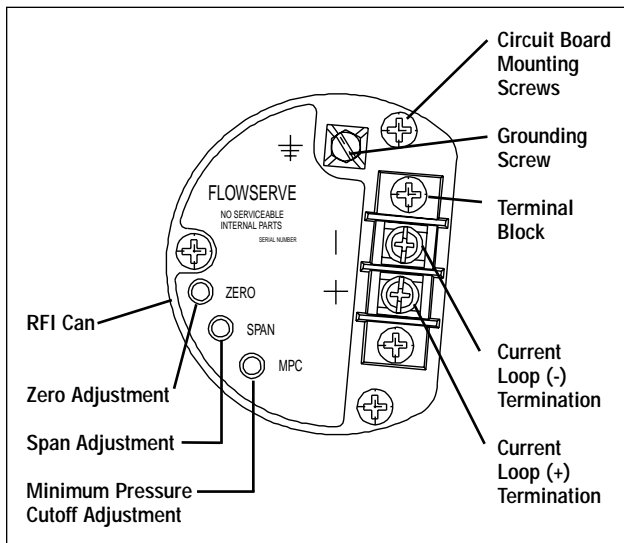

Figure 7: NT 3000 Circuit Board Module
2. Remove I/P module housing cover. (See Figure 7.)
The XL90 positioner with I/P Transducer has a "Minimum Pressure Cutoff" (MPC) feature, which allows the user to set the positioner. When the input signal falls below a user-adjustable current, the pressure output falls rapidly to approximately 1.7 psi, causing the valve to move to the failure position. This feature is generally used when the service requires a tight shut off or to prevent throttling near the valve seat. To adjust this feature, refer to Figure 7 and perform the following :